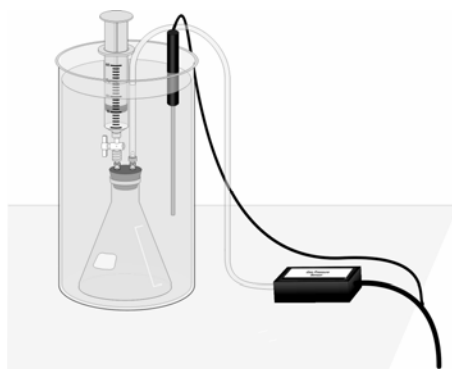

Figure 3
In this experiment, you will study the relationship between the volume of a gas sample and its absolute temperature. Using the apparatus shown in Figure 3, you will place an Erlenmeyer flask containing an air sample in a water bath and you will vary the temperature of the water bath. Keep some of these factors in mind as you plan your procedure.
12. Assemble the apparatus shown in Figure 3. Be sure all fittings are air-tight. Make sure the rubber stopper and flask neck are dry, then twist and push hard on the rubber stopper to ensure a tight fit. Be sure the water level is at least as high as the confined air in the syringe.